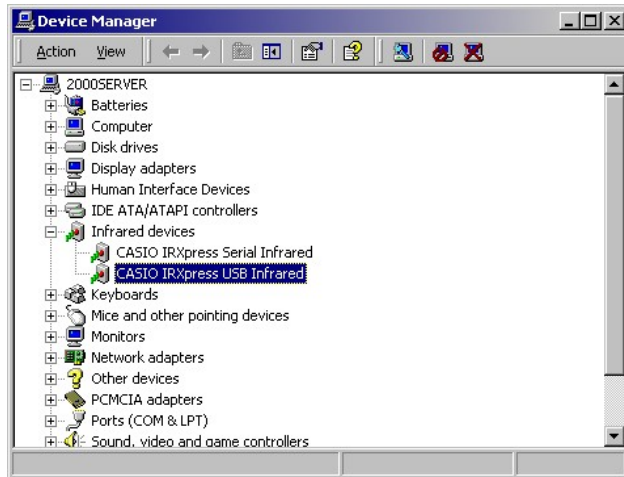

Figure 5.18
4. Choose **Device Manager** in **Hardware** tab. If the cradle is connected to the PC and the power on the cradle is turned on, **CASIO IRXpress USB Infrared** appears in the **Device Manager** (see Figure 5.18).
5. Right-click **CASIO IRXpress USB Infrared** in the Infrared devices menu (see Figure 5.18) and then choose **Properties**.